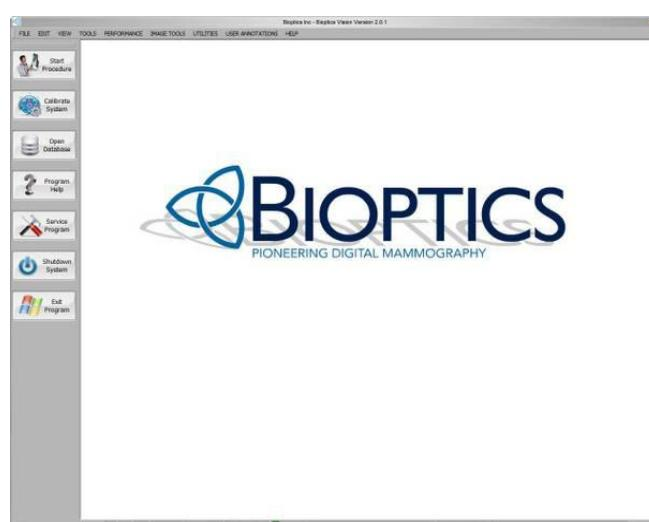

Figure 4.3.1
1. Go to the "Start-up Screen" also known as the "Main Screen" (See *Figure 4.3.1*).